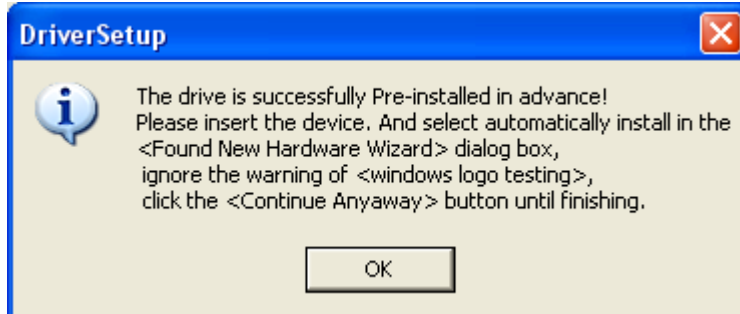

Figure 1-13
Step 3 : When automatic installation is complete, as indicated by the pop-up box in Figure 1-13, click **OK** in Figure 1-13. Your USB driver is now successfully installed on your computer and ready for use.